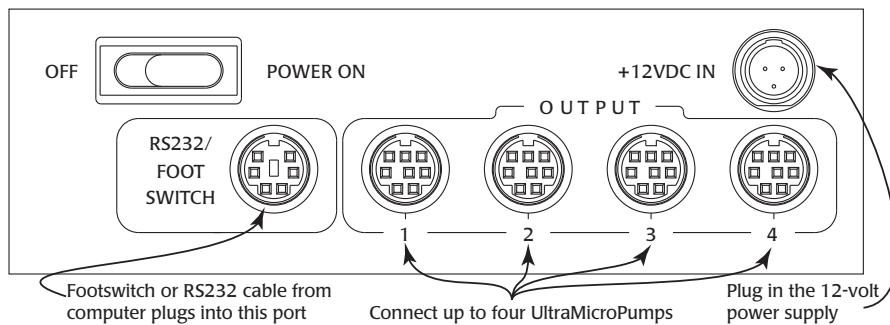

Fig. 5—On the rear panel of the **Micro4** controller, connect the footswitch, up to four **UMP3** pumps and the 12V power supply.
Plug the **UMP3** cable into an output socket on the back of the **Micro4** controller (Fig. 5). Be sure to align the notch on the cable connector with top of the port on the back of the **Micro4**. Up to four pumps may be connected and independently controlled.
1. Plug the 12-volt power supply into the rear panel of the **Micro4** (Fig. 5).